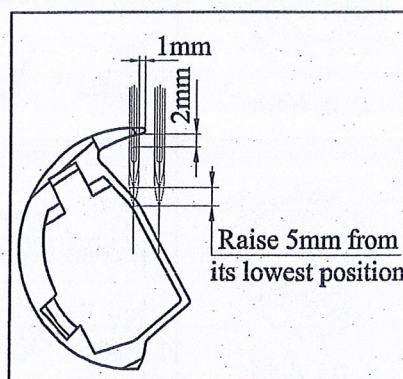

Fig 10
- Turn the pulley(203) by hand in the correct direction so that the needle comes to its lowest position. Thereafter, raise the needles by 5mm from the lowest position, and then adjust the shuttle so that the tip of shuttle turns across left needle (operator's side view) about 1mm and the tip of the shuttle is above the eye of the left needle about 2mm(Fig 10).
- After adjustment, tighten the screws 1 of the gear holder(518) again.